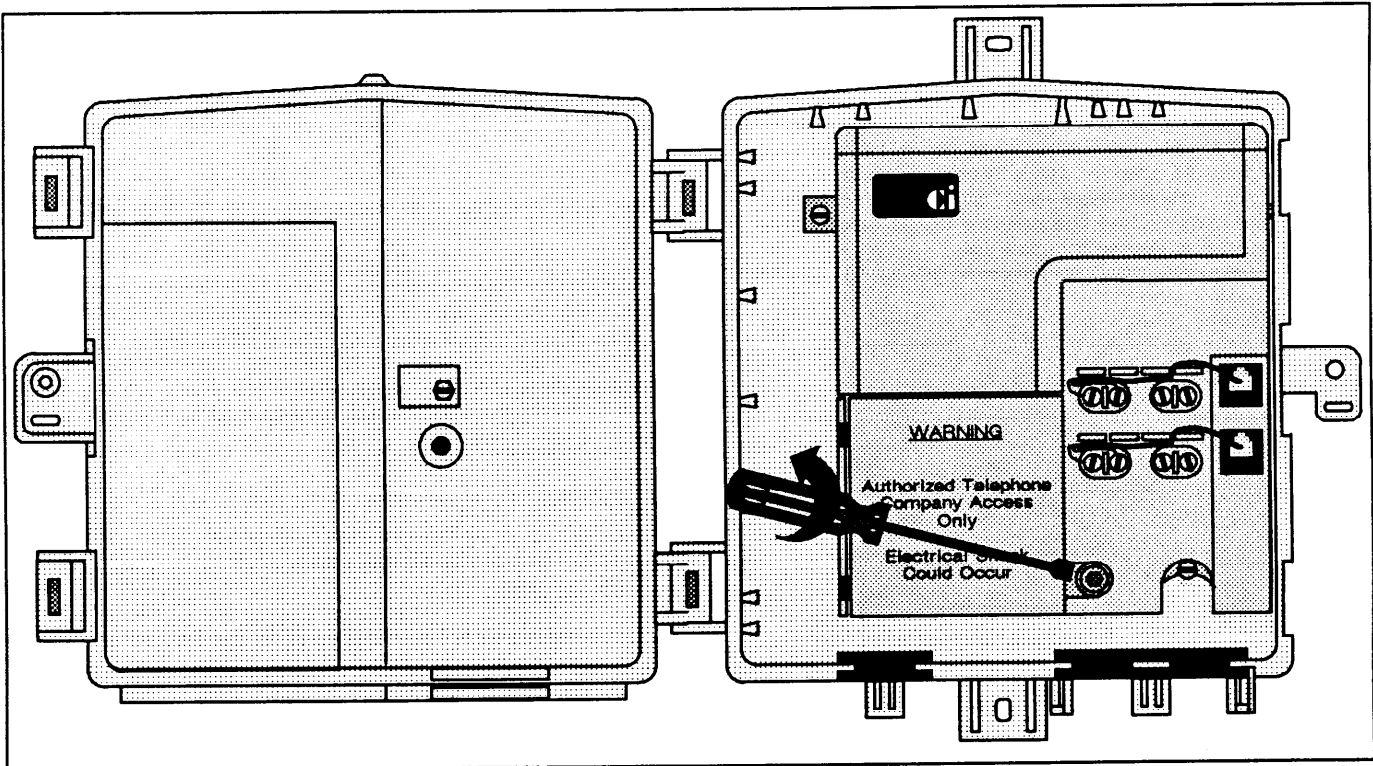
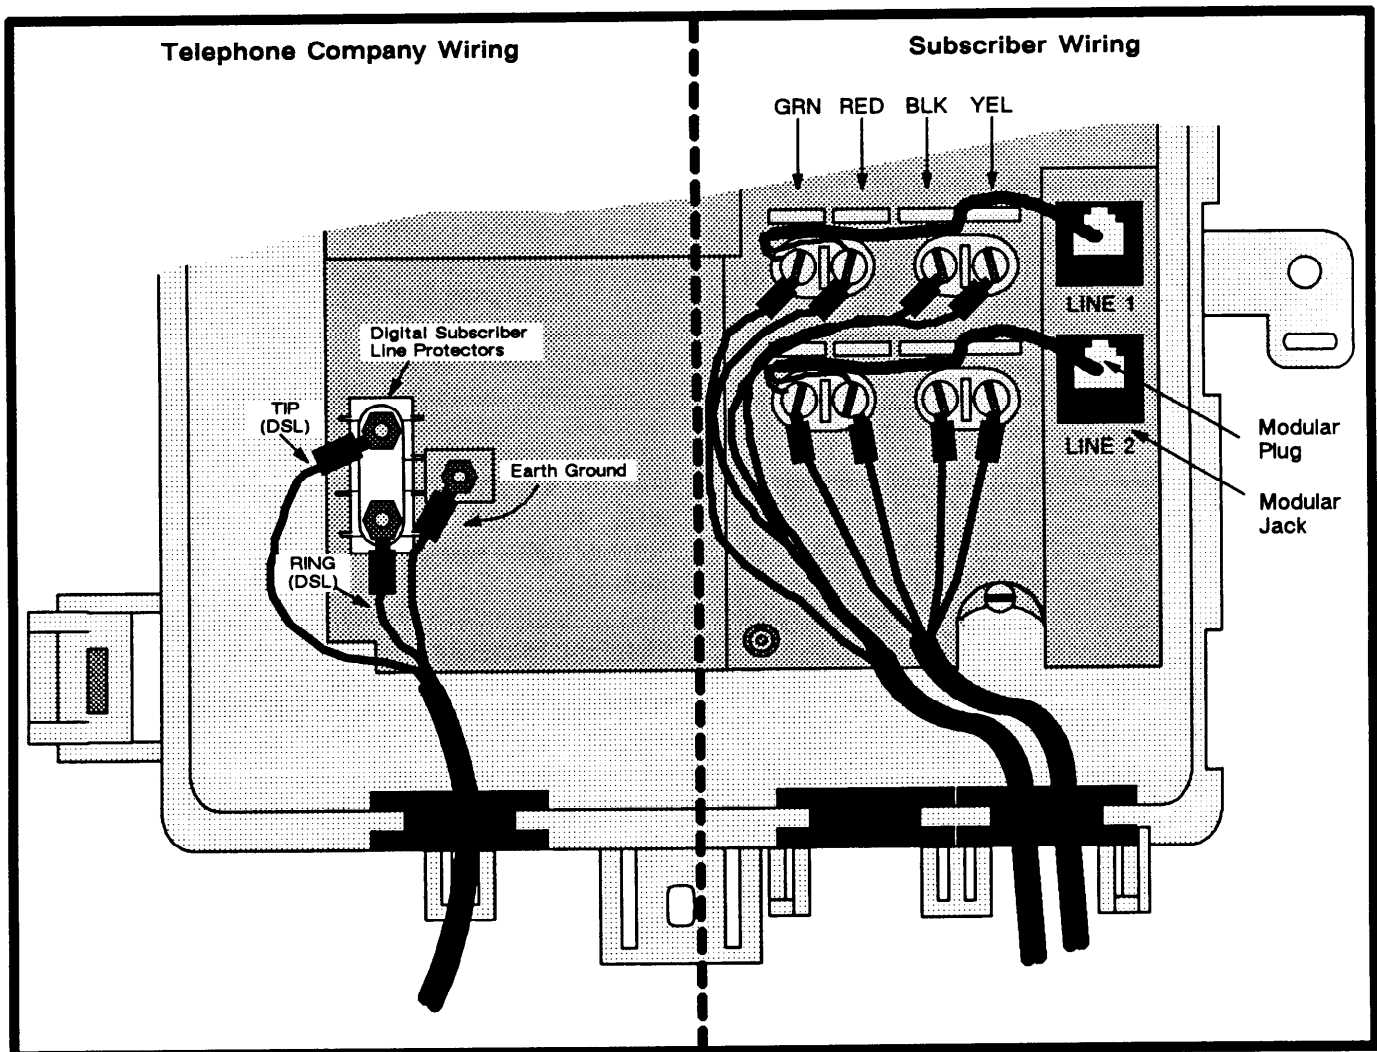

Figure 3. DDL102 in the Open Position
Figure 4. Partial Drawing of Remote Terminal Enclosure Showing Wiring
Using the 1/4-inch hex nut driver, open the TEL. CO. access cover by turning the hex screw counterclockwise until the enclosure cover can be opened. See Figure 3.
When mounting of the RT enclosure is completed, run the 2W Digital Subscriber Line cable, an earth ground wire, and the subscriber telephone lines (if required) to the RT mounting location. Refer to Figure 4.
Connect the 2W Digital Subscriber Line And Ground Cables (Refer To Figure 4).
- (1) If not already opened at this time, open the internal TEL. CO. access cover by turning the 1/4-inch hex nut counter-clockwise. Refer to Figure 3.
- (2) Pull the 2W Digital Subscriber Line and ground cables through the left side opening. Allow extra cable inside the enclosure for a service loop (this will provide strain relief).
- (3) Connect the 2W Digital Subscriber Line and ground cables to the protector unit terminals as shown in Figure 4. Tighten all terminal screw connections.
- (1) Pull the subscriber's telephone lines through the right side opening. Allow extra cable inside the enclosure for a service loop (this will provide strain relief).
- (2) Properly terminate the subscriber's telephone lines on the LINE 1 and LINE 2 terminal blocks as shown in Figure 4. Tighten all terminal screw connections.
- (6) Close both the internal and external TEL. CO. access covers by reversing procedure in shown Figure 3.